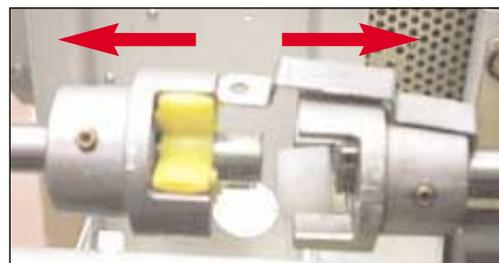

FIG. 319A:
- (3) Separate couplings (see fig. 319A).